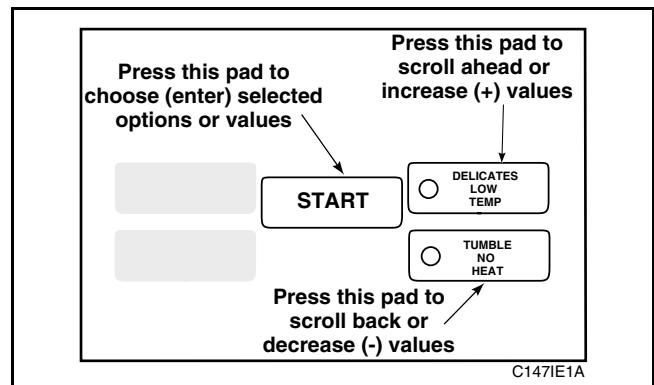

Figure 54
- Press the LOW TEMP (+) pad or the NO HEAT (-) pad to increase or decrease the current number of minutes allowed in Cool Down, *Figure 54*.